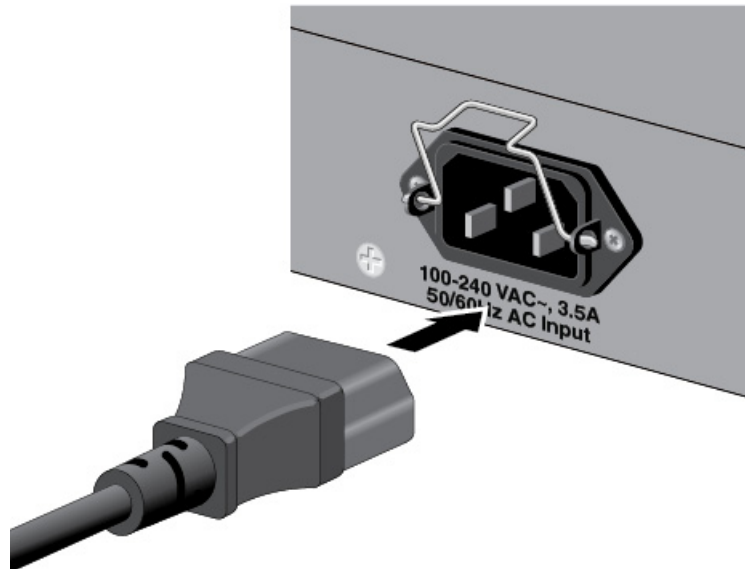

Figure 46. Plugging in the AC Power Cord
3. Connect the power cord to the connector. Refer to Figure 46.